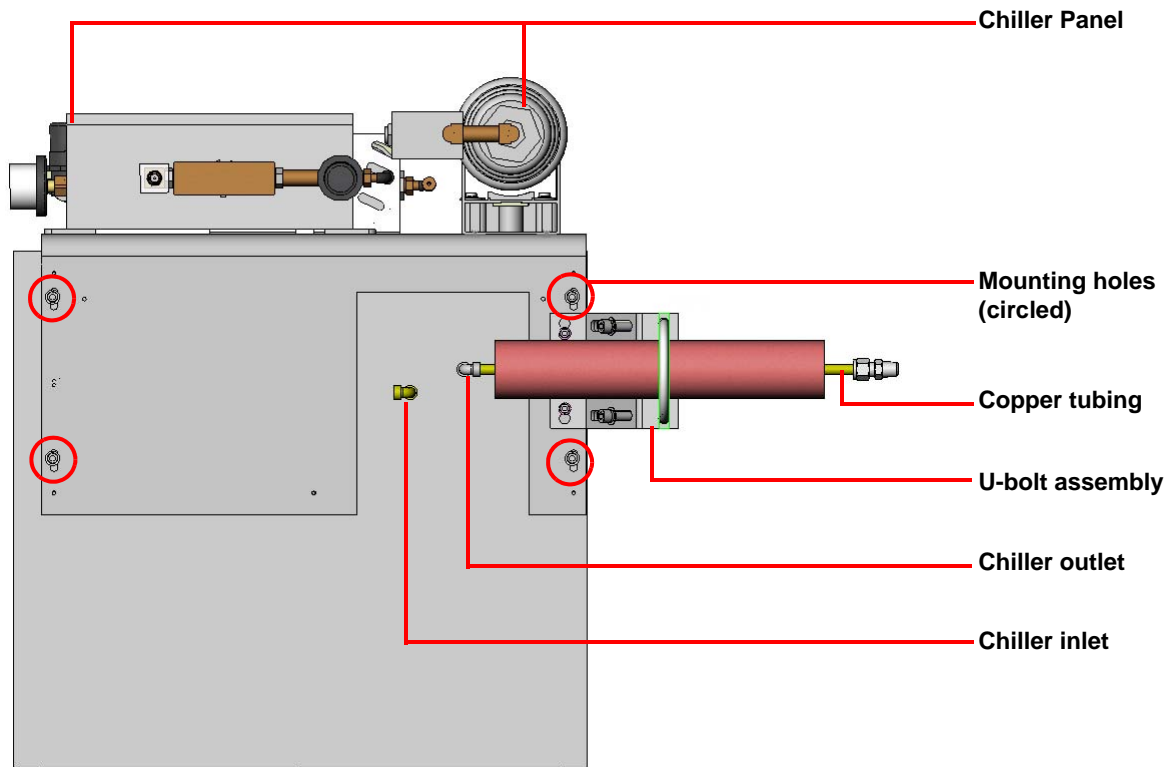

Figure 1 Top view of Chiller Panel assembly.
- 7 Install the 3/8-inch reducing elbow (PN 200387.001) on the Chiller inlet pipe (refer to Figure 1 for inlet location).